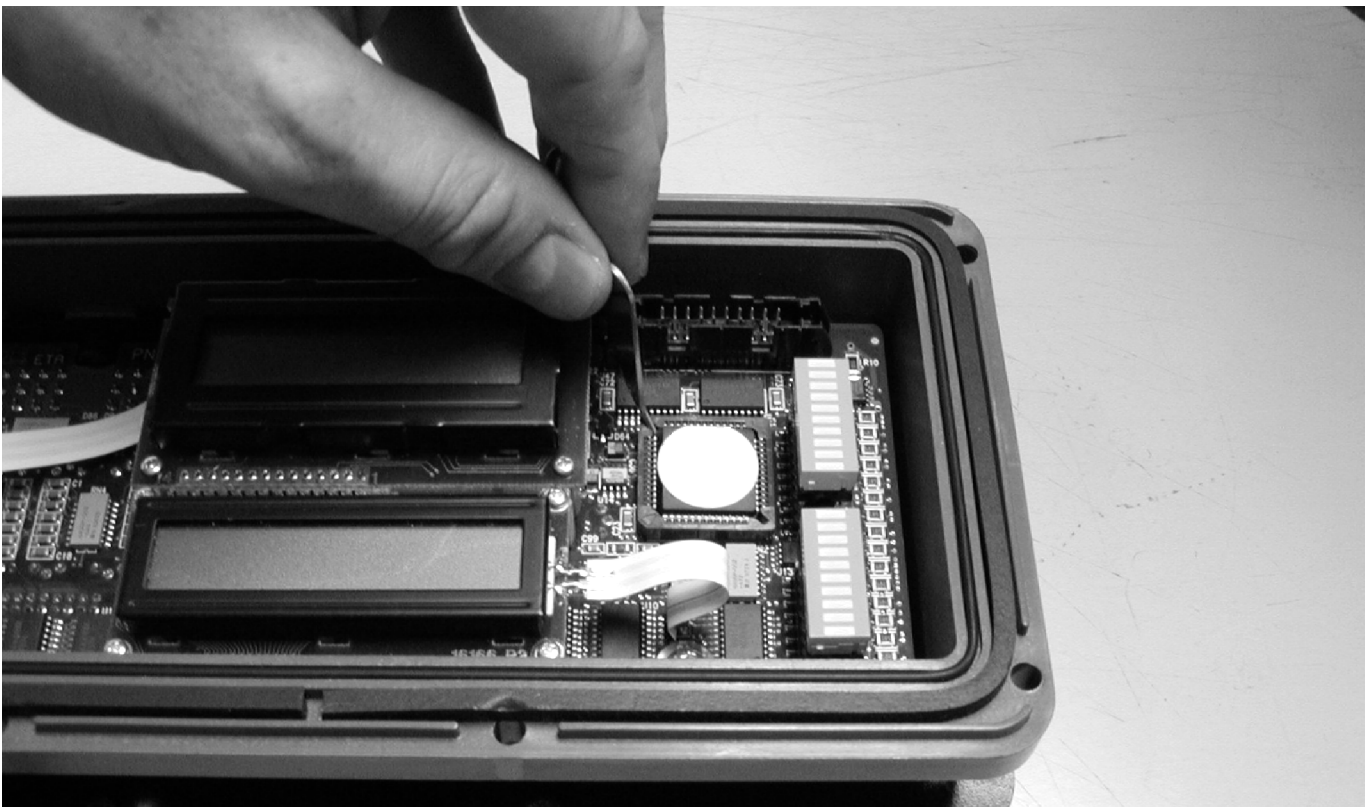

FIG. 3 - Pry Chip Up With Chip Removal Tool
13. Remove the LED block immediately to the left of the micro controller. This will make room for the chip removal tool. (Refer to FIG. 3)
14. Insert the end of the chip removal tool (9) into the corner socket notch of the micro controller. (Refer to FIG. 3)
16. Carefully align the dot on the beveled edge of the new micro controller (1) with the arrow in the chip socket (similar orientation as the chip that was removed).
(Refer to FIG. 3)